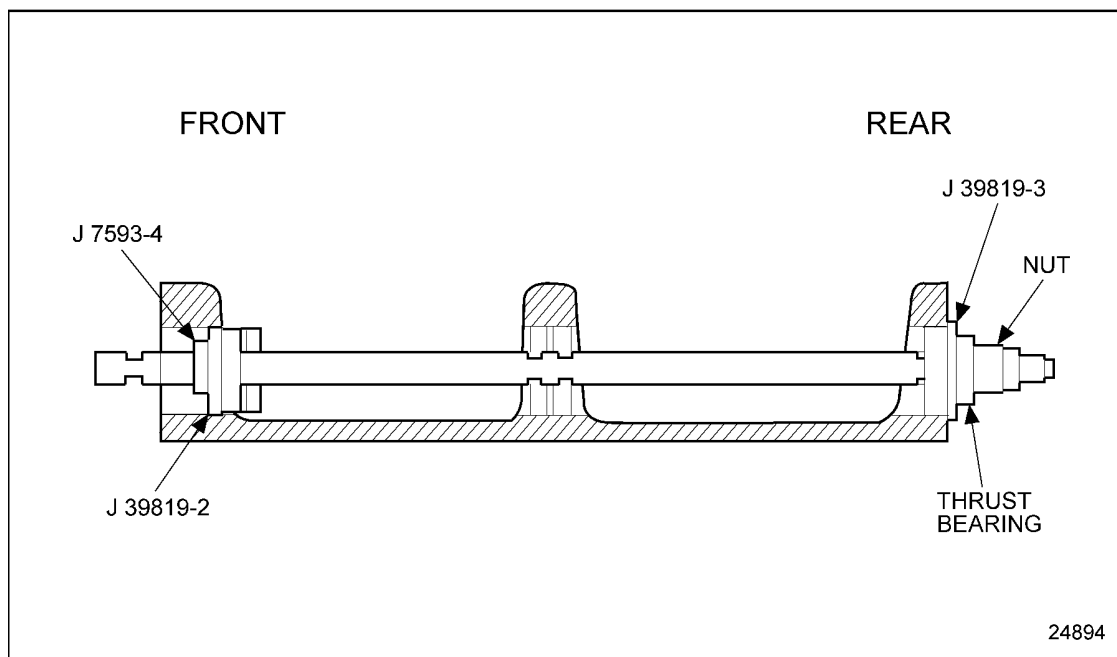

Figure 1-376 Remove Front Bushings
1. Place C-washer J 7593 and bushing installer J 39819-2 onto the end of shaft J 39819-5 and insert the shaft completely through the cradle from the front. See Figure 1-376.